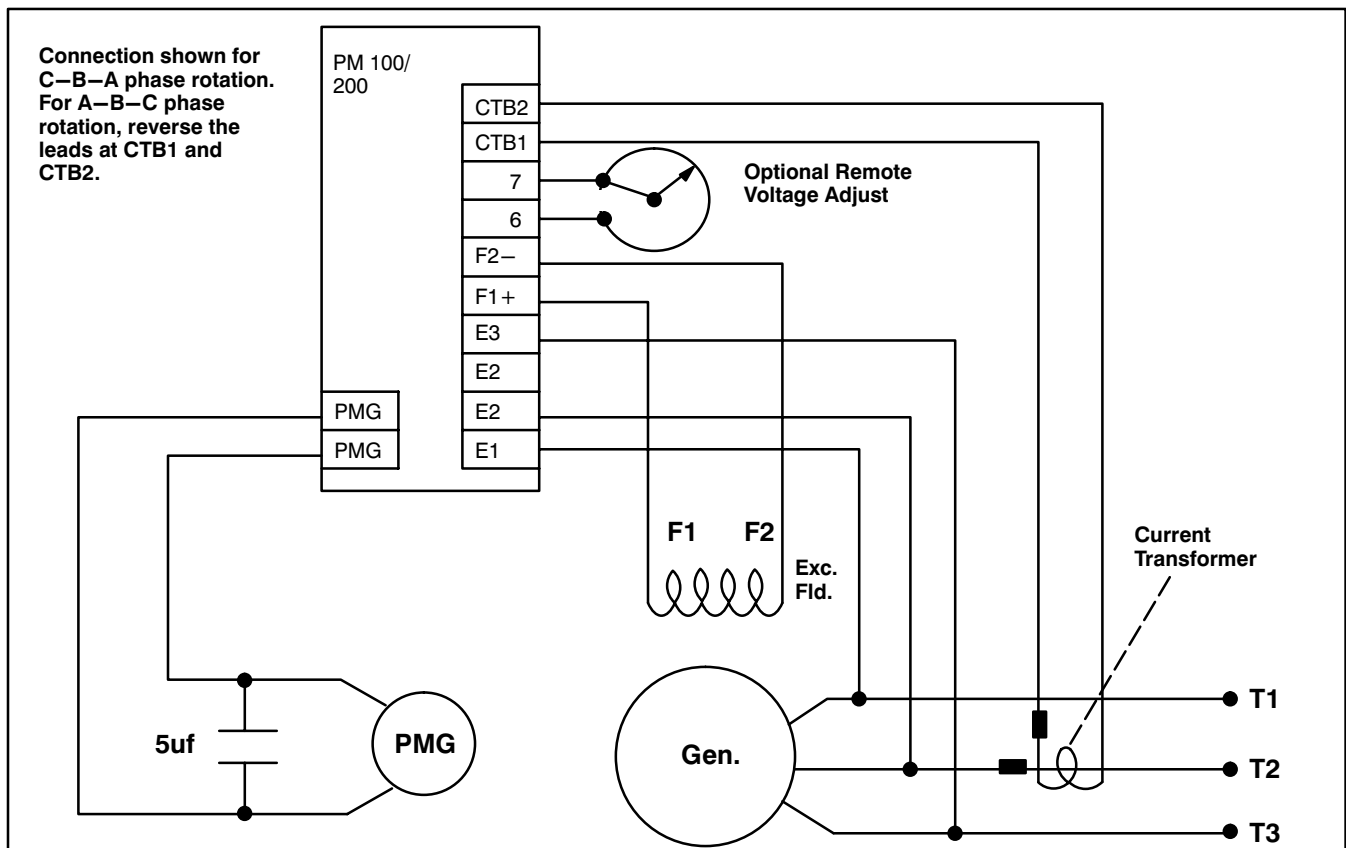

Figure 1. Wiring Diagram
2. Wire reactive droop compensator current transformer as shown in Figure 1.